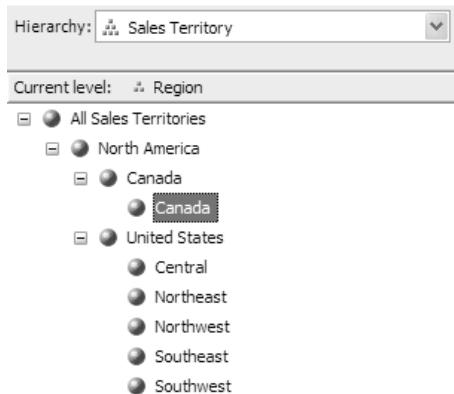

Figure 4.11 The Sales Territory hierarchy with custom sorting.
- In the Browser tab, select the Group hierarchy in the Hierarchy dropdown. Observe that North America is now the first member below the All Sales Territories top member (Figure 4.11).
Under normal circumstances, members of the same level in a hierarchy have the same number of members above them. For example, every member of the Month level in our Calendar Date multilevel hierarchy always has Quarter, Semester, and Year members above it. Such hierarchies are called *balanced*. Sometimes, balanced hierarchies may get in the way. For example, as you can see by glancing at Figure 4.11, only the United States has regions. The rest of the countries have duplicated Country and Region members. Users may find this redundant and tedious. Instead, let's create a ragged hierarchy by hiding the Region members when they have the same name as the parent member (Country).